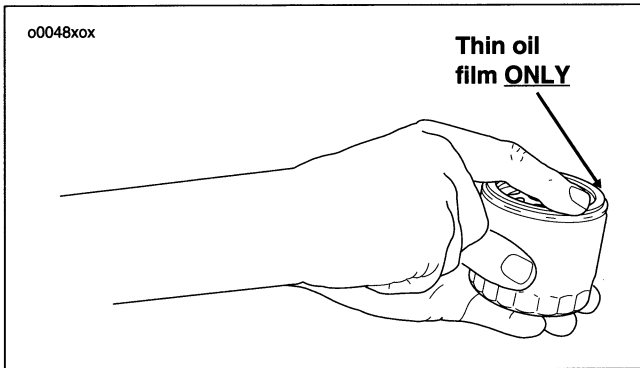

Figure 63. Applying Thin Oil Film
7. See Figure 63. Apply a thin film of oil to gasket contact surface on mounting plate, gasket and **new** oil filter.